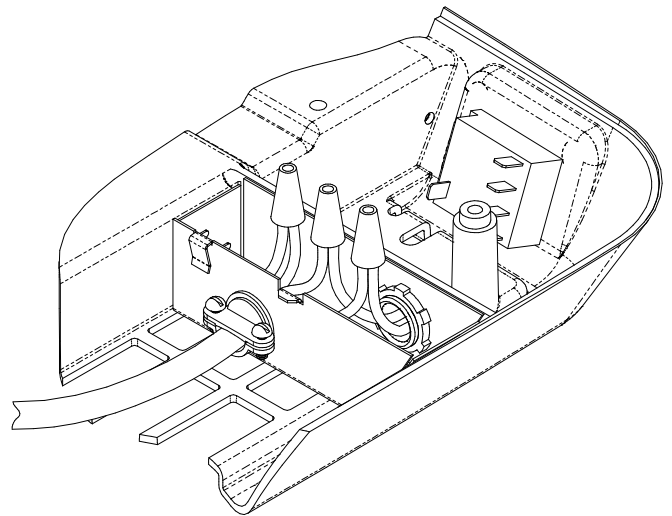

**FIGURE 8**
- F. Insert the supply wiring through the cable clamp and into the field wiring box so that 4 - 6” of supply conductor is inside the box. Secure the cable clamp over the supply wire sheath so that no movement is possible (See Figure 8).
- G. Connect the supply power conductors to the black and white pigtail wires and the supply ground wire to the green pigtail wire found in the field wiring box using the 3 provided wire nuts. **IMPORTANT** – Connect the black supply to the black pigtail and the white supply to the white pigtail. Using a U.L. approved electrical tape, secure the wire nuts to wires in a workmanlike manner (See Figure 8).